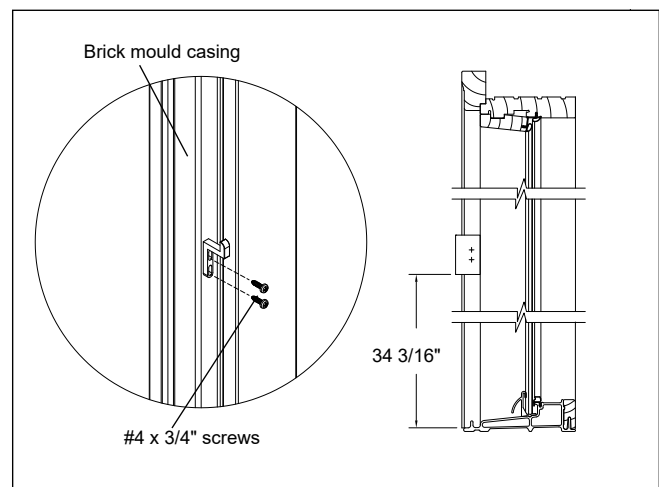

Figure 4
2. To mount strike plate on casing, cut out template below. Place bottom edge of template 34 3/16" (868) from the exterior top edge of the sill. With template at this measurement mark screw location. Attach strike with #4 x 3/4"(19) screws. See figure 4.